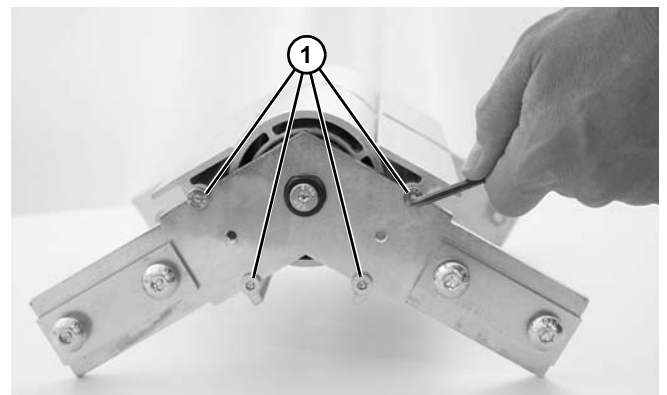

Figure 96
5. With knuckle assembly on an open work surface, remove four screws (**Figure 96, item 1**) from one side of knuckle assembly.